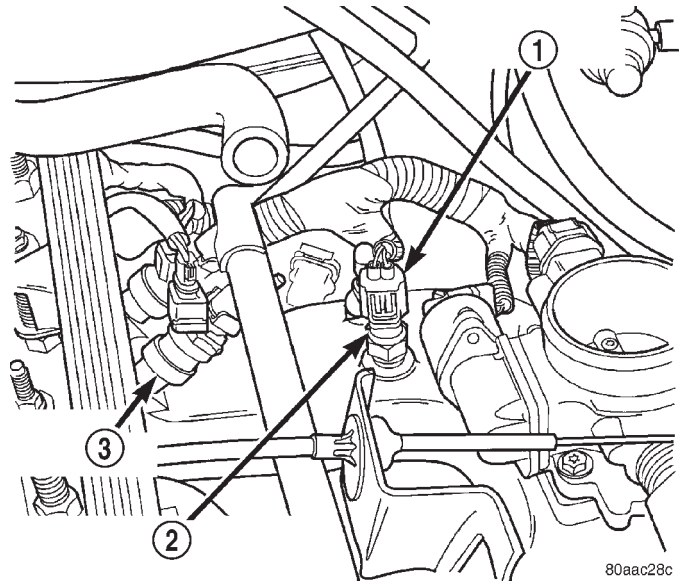
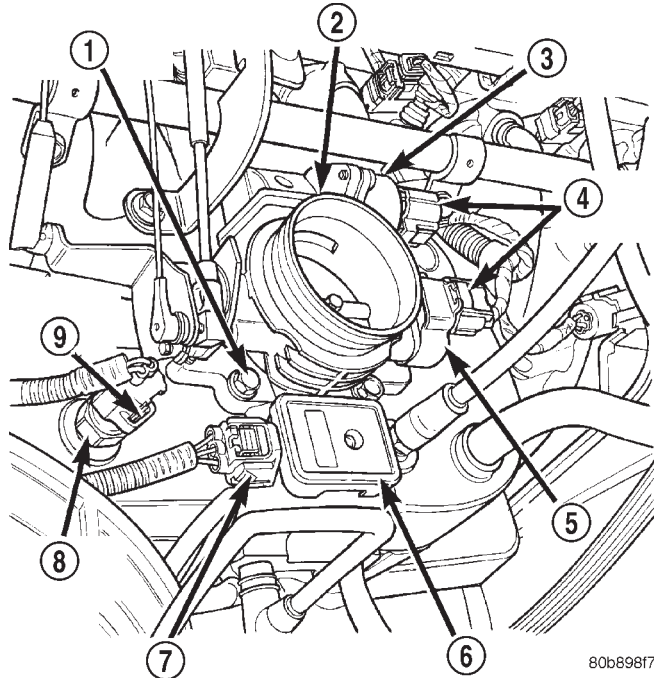
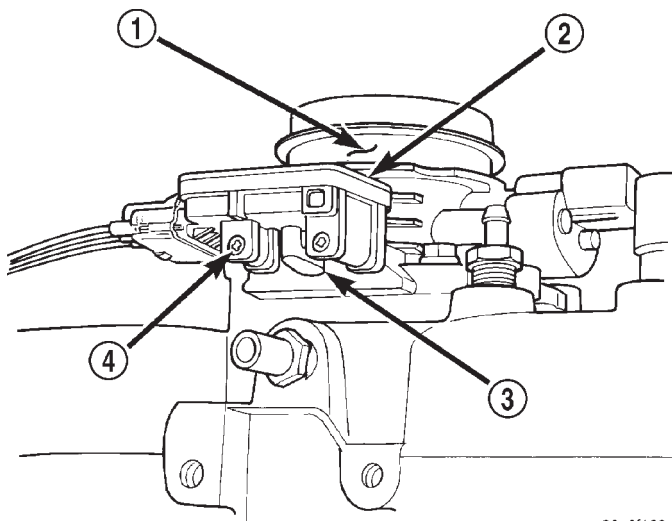

Fig. 7 Intake Manifold Air Temp. Sensor Location—2.5L Engine
Fig. 8 Sensor Locations—4.0L Engine
Fig. 9 Rubber L-Shaped Fitting—MAP Sensor-to-Throttle Body
(15) Inspect air cleaner inlet and air cleaner element for dirt or restrictions.
(16) Inspect radiator grille area, radiator fins and air conditioning condenser for restrictions.
(17) Verify intake manifold air temperature sensor wire connector is firmly connected to harness connector (Fig. 7) or (Fig. 8).
(18) Verify MAP sensor electrical connector is firmly connected to MAP sensor (Fig. 8). Also verify rubber L-shaped fitting from MAP sensor to throttle body is firmly connected (Fig. 9).
(19) Verify fuel injector wire harness connectors are firmly connected to injectors in correct order. Each harness connector is numerically tagged with injector number (INJ 1, INJ 2 etc.) of its corresponding fuel injector and cylinder number.
(20) Verify harness connectors are firmly connected to idle air control (IAC) motor and throttle position sensor (TPS) (Fig. 8).